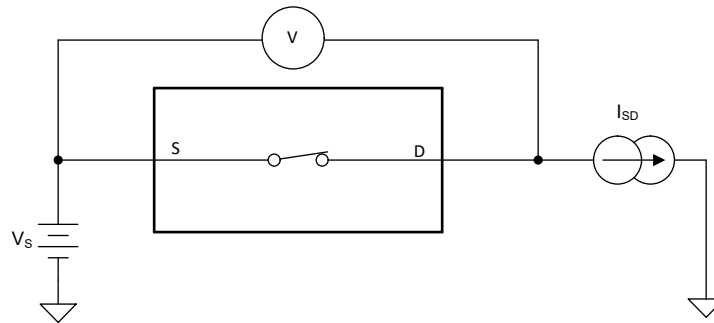

Figure 7-1. On-Resistance Measurement Setup
The on-resistance of a device is the ohmic resistance between the source (Sx) and drain (Dx) pins of the device. The on-resistance varies with input voltage and supply voltage. The symbol R_{ON} is used to denote on-resistance. Figure 7-1 shows the measurement setup used to measure R_{ON} . Voltage (V) and current (I_{SD}) are measured using this setup, and R_{ON} is computed with $R_{ON} = V / I_{SD}$.